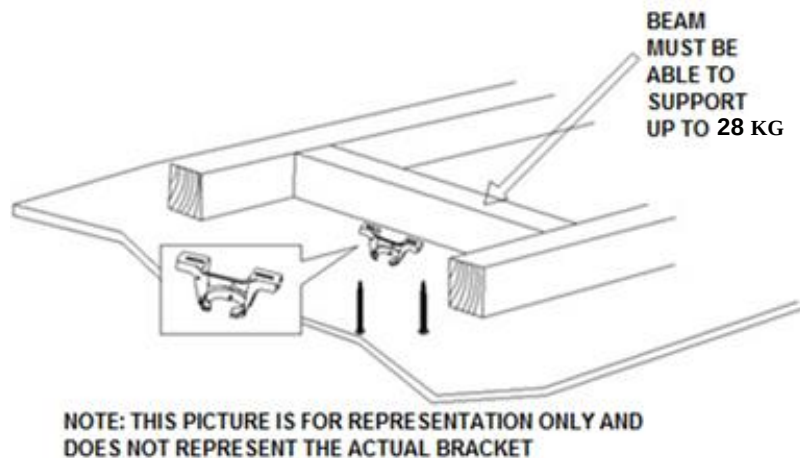

Fig. 2
- Install the hanging bracket to the ceiling joist or structure that is capable of carrying a load of at least 28 kg, with two long screws provided. Ensure at least 30mm of the screw is threaded into the support. (Fig. 2)